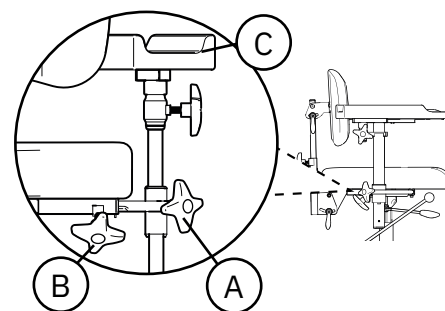

Figure 5.51. Hemiplegia armrest.
The Hemiplegia armrest is adjustable in height (A), width (B) and rotation (C), see Figure 5.51.